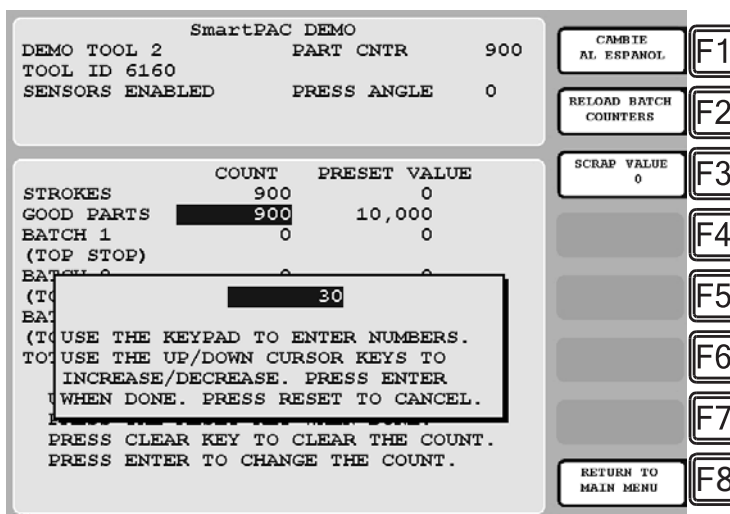

Figure 1-8 - Counters Screen with Scrap Value Entry Window Displayed (30 Items Shown)
2. Press "F3" (Scrap Value). The Scrap Value Entry window displays (see Figure 1-8).